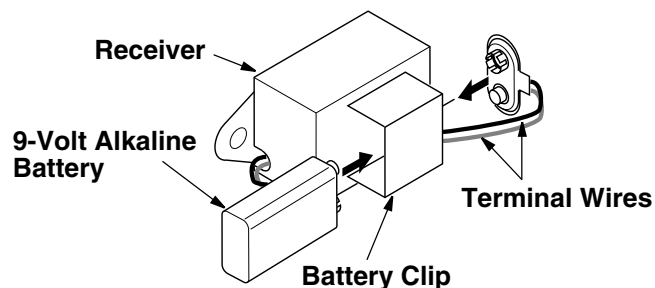

Figure 17 - Attaching Alkaline Battery to Receiver
3. Attach the terminal wires to the battery. (see **Figure 17**).